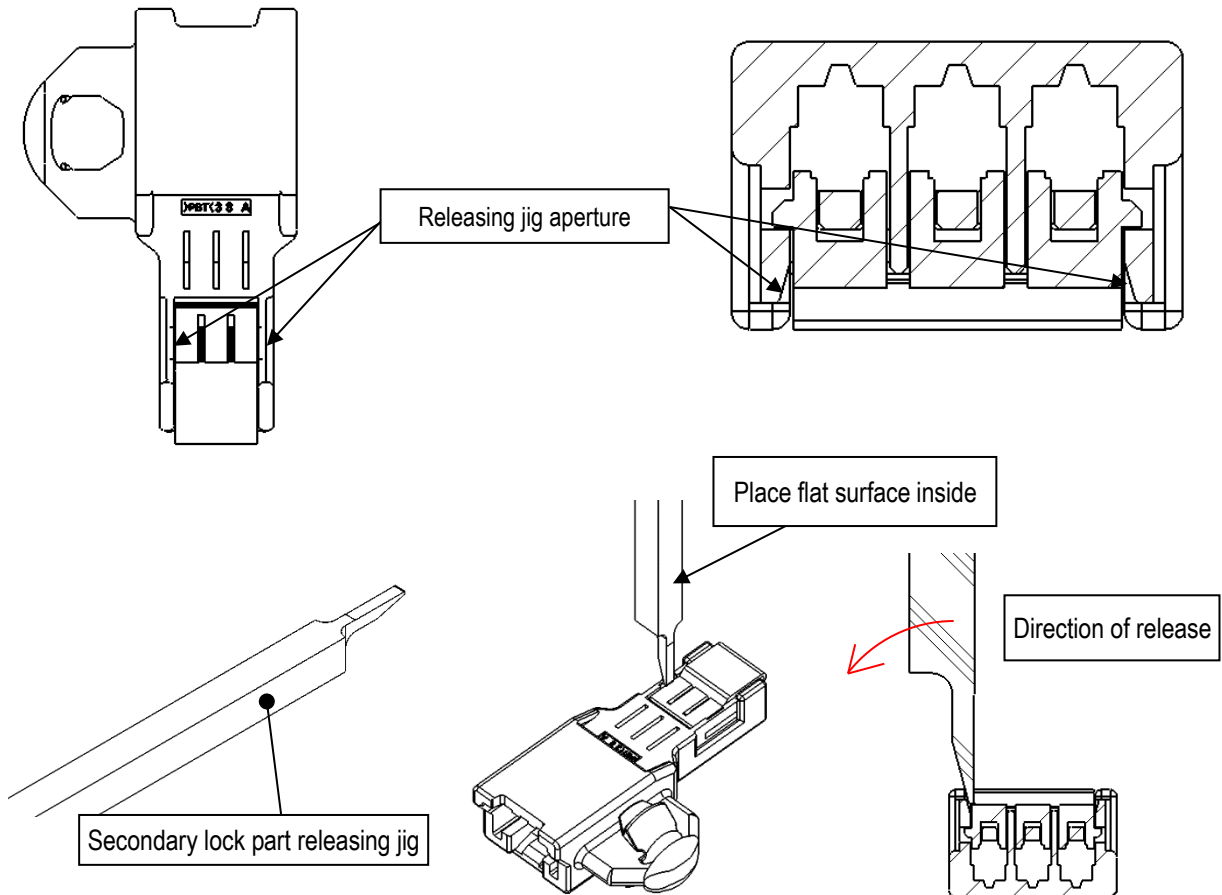

Fig 30. How to release the secondary lock part
① Initial position of the secondary lock part may be different. This does not affect the quality of the product.
- ① Place the releasing jig into the secondary lock part taper situated at the bottom of the housing, and move the jig to the direction shown in Fig. 30 to release the secondary lock part (release one side at a time).